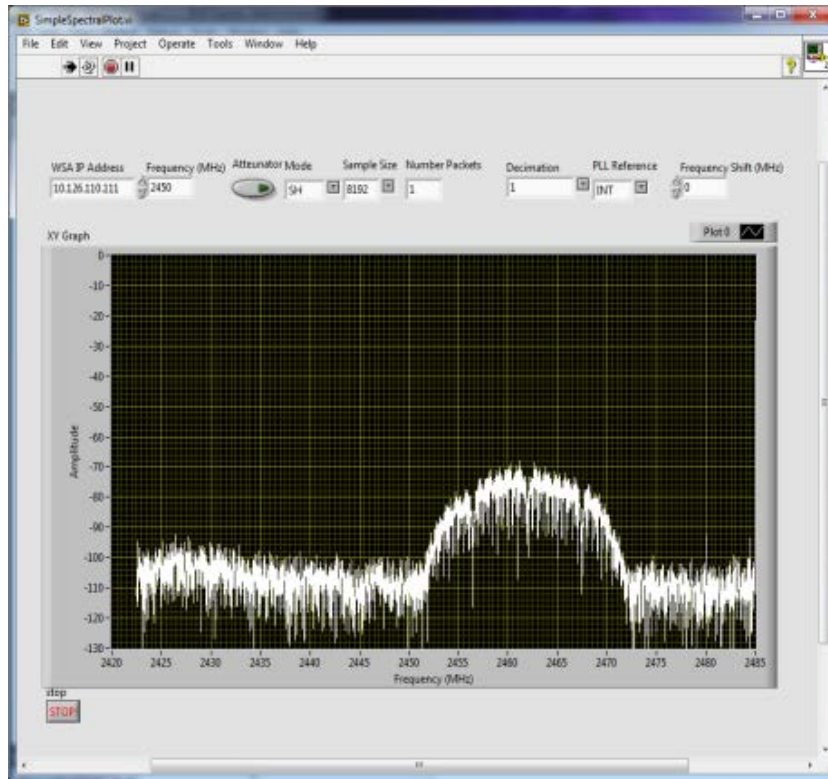

Figure 3: SimpleSpectralPlot.vi Running
3. You can Run the *SimpleSpectralPlot.vi* VI by typing your IP address under the 'WSA IP Address' field, and clicking on the Run  command (see figure 3).